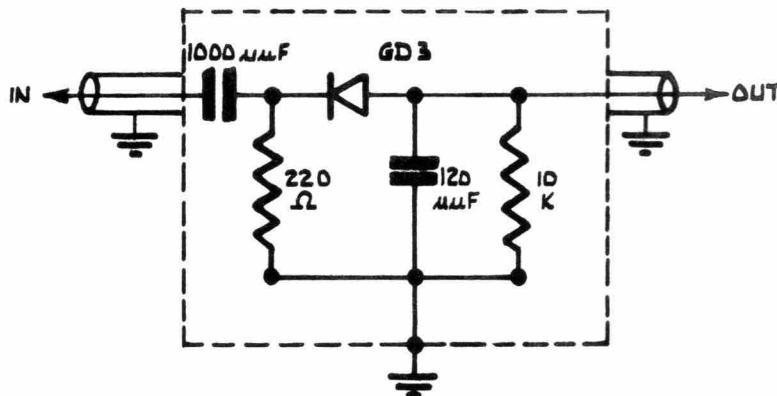

FIG. 9.
6. Connect the oscilloscope, through the probe circuit shown in Fig. 9 between pin 7 and ground of V3.
2. Connect the oscilloscope to the plate test point of the turret tuner unit via a low impedance crystal detector probe. Fig. 9.